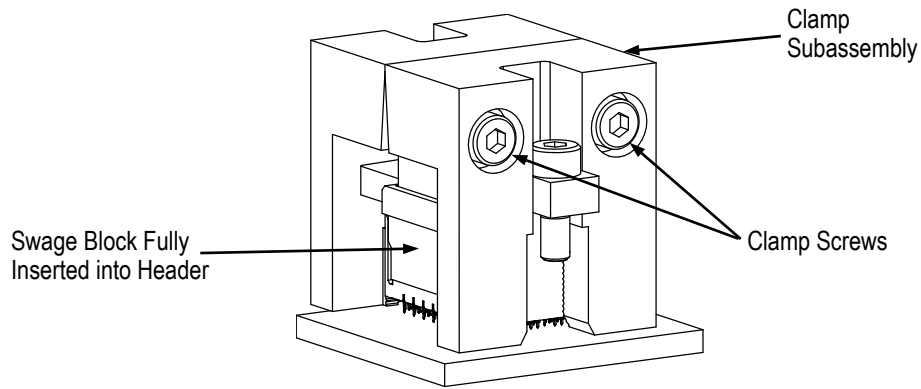

Figure 4
6. Make sure the swage block is fully inserted into the header and tighten the clamp screws. The recommended torque for the clamp screws is 2 N-m [18 in.-lbs]. See Figure 4.